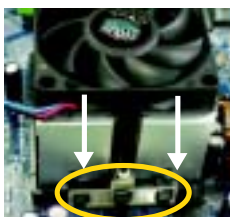

Figure 4 & 5.
Step 1-3. Once the thermal grease has been applied to the processor, the heatsink can be attached to the processor. Align the heatsink assembly with the support frame mating with the backer plate standoffs as shown in Figure 4 & 5.